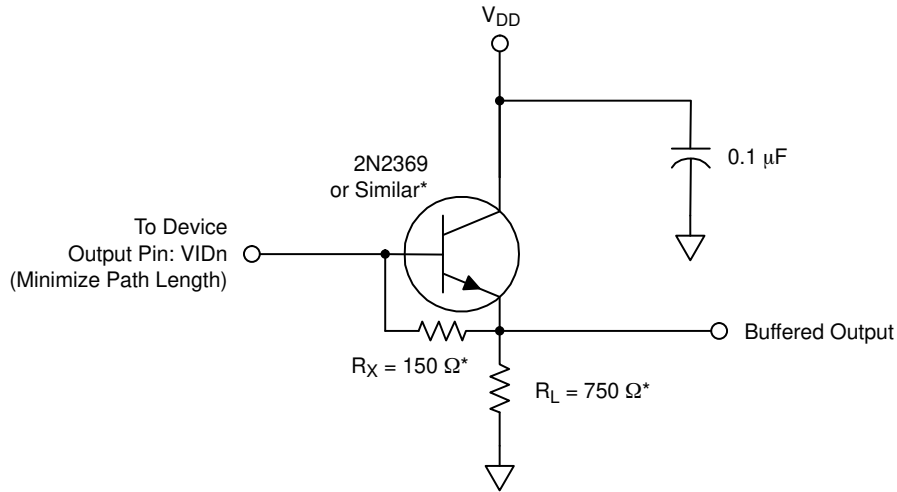

Figure 17. Typical Output Bias/Buffer Circuit
1. A current sink must be supplied for each output. Load capacitance should be minimized so as not to limit bandwidth. RX serves as the load bias for the on-chip amplifiers. The values of RX and RL should be chosen to optimize performance for a given operating frequency. The values shown in Figure 17 below represent just one solution.